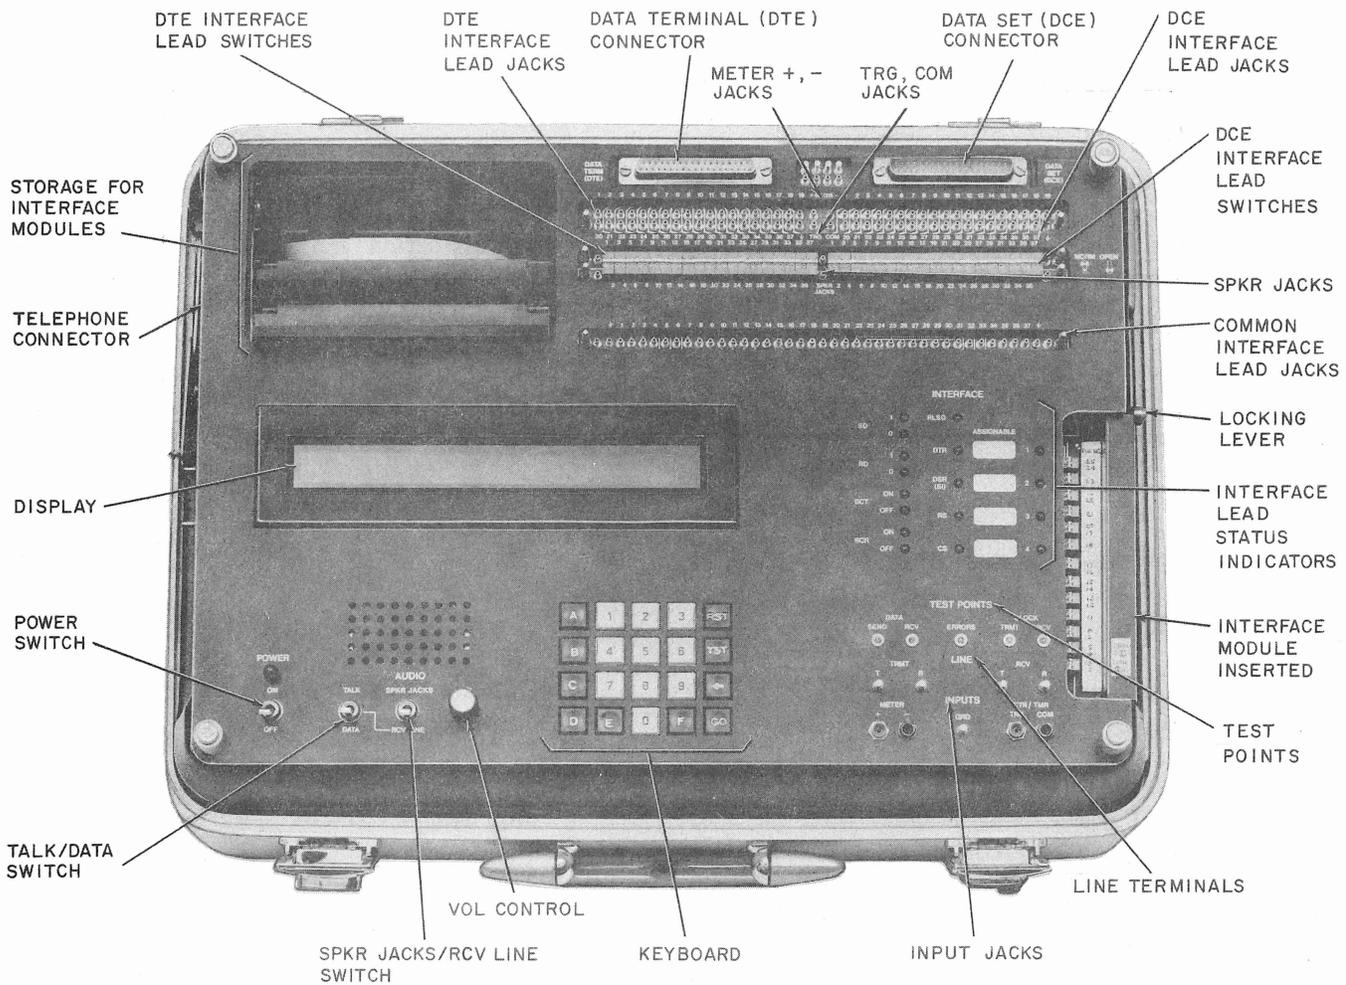

Fig. 1—921A Data Test Set—Front Panel
**1.04** The 921A DTS (Fig. 1) is a portable, general purpose, data test set that provides the serial testing capabilities of the 914C DTS and is compatible with the 914C DTS for end-to-end